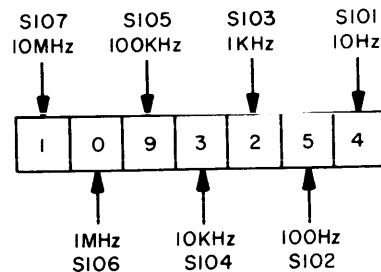

Figure 4-2. Frequency Selector Switch Readouts
c. FREQUENCY SELECT SWITCHING. (See figure 7-1.) Frequency select switching in the VOX-7 is accomplished by seven rotary switches S101 through S107, with direct-reading dials, corresponding to frequencies of 10 Hz, 100 Hz, 1 kHz, 10 kHz, 100 kHz, 1 MHz and 10 MHz, respectively. (See figure 4-2.) The six discrete frequencies, generated on each of the comb filter boards, Z102 and Z103, are applied through 100-ohm series isolation resistors on respective terminal boards TB101 and TB102, prior to being sent to the selector switch networks.